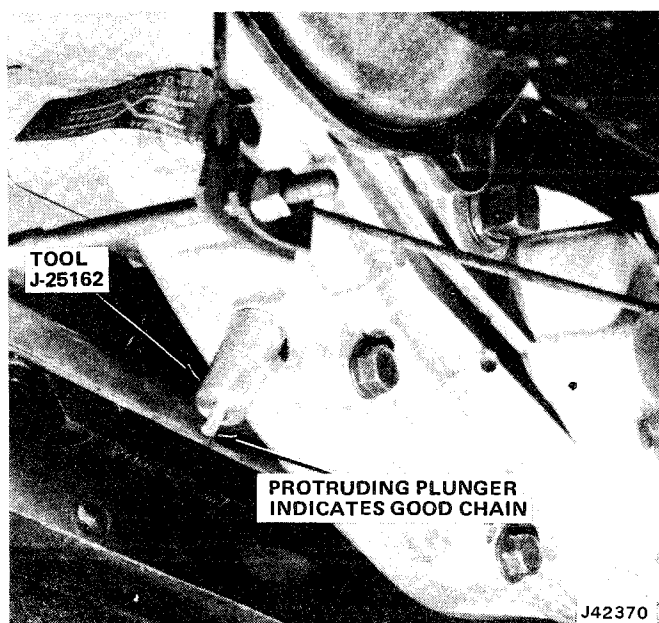

Fig. 2D-23 Inspecting Drive Chain Tension
(1) Remove transfer case drain plug, drain lubricant, and reinstall drain plug.
(2) Remove chain inspection plug.
(3) Thread Chain Tension Gauge J-25162 into inspection hole until gauge stops against case (fig. 2D-23).
(4) Tension gauge plunger should protrude past outer end of checking tool (fig. 2D-23). If gauge plunger is flush or below end of gauge, replace drive chain.
(1) Raise vehicle.
(2) Loosen bolts attaching reduction unit to transfer case cover (fig. 2D-24).
(3) Move reduction unit rearward just far enough to allow oil to drain from unit.
(4) Disconnect shift linkage at reduction unit control lever.
(5) When oil has drained, remove bolts attaching reduction unit to transfer case cover.
(6) Move reduction unit rearward to clear transmission output shaft and pinion cage which is attached to transfer case drive sprocket.